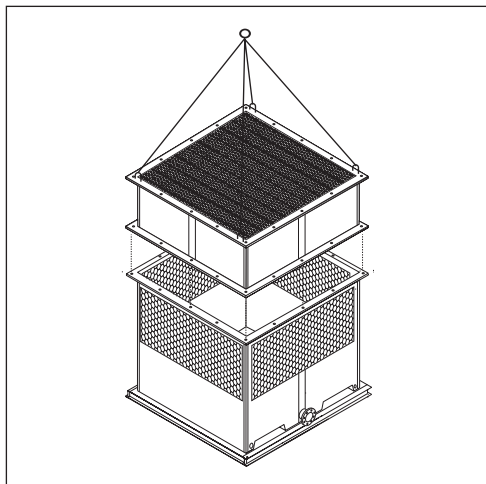

Figure A-8: Lower body installation for a Single Fan Tower (RT-D)
- H. Only If your Tower is a RT-D model**, it includes an additional part of body section (Lower Body section). Place the Lower Body section on top of basin section, then bolt down and secure the horizontal flanges with the stainless steel nut and bolt sets supplied by REYMSA (see Figure A-8).